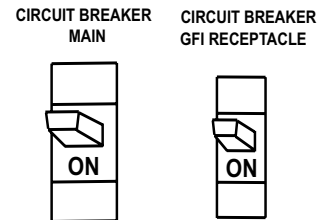

Figure 28. Main and GFCI Circuit Breakers
12. If there are no abnormal problems shown on the MPEC LED display, turn both the MAIN and GFCI circuit breakers to their ON position (Figure 28).